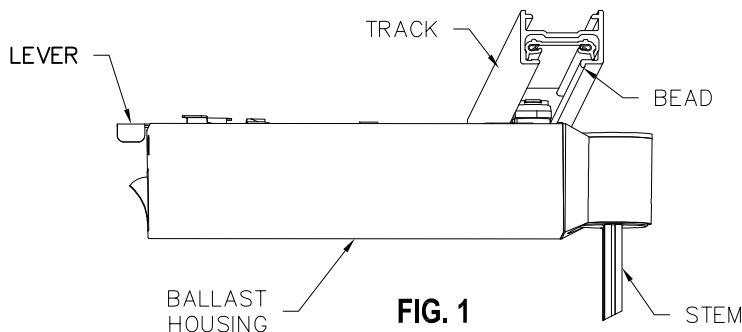

FIG. 1
2. Insert luminaire into TRACK as shown in FIG. 1. The STEM must be on the same side as the BEAD.